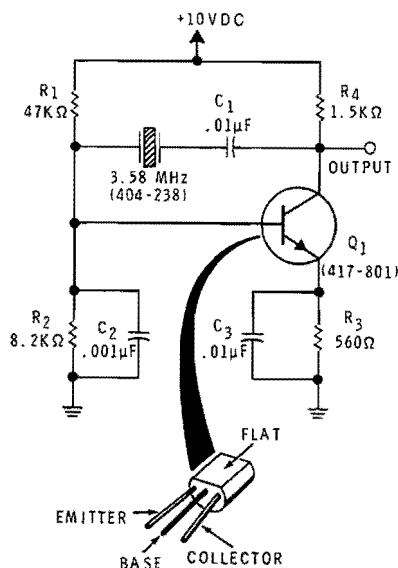

Figure 5-53
8. Construct the crystal oscillator shown in Figure 5-53. This is a Pierce oscillator that functions at a frequency of \_\_\_\_\_ megahertz, determined by the crystal.